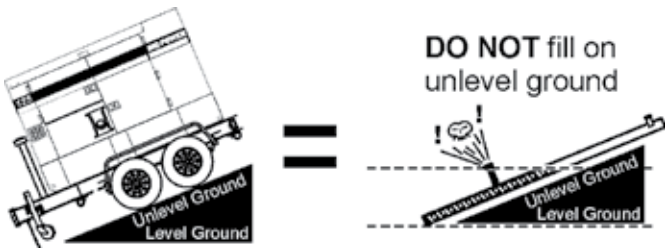

Figure 33. Only Fill on Level Ground
1. **Level Tanks** — Make sure fuel cells are level with the ground. Failure to do so will cause fuel to spill from the tank before reaching full capacity (Figure 33).